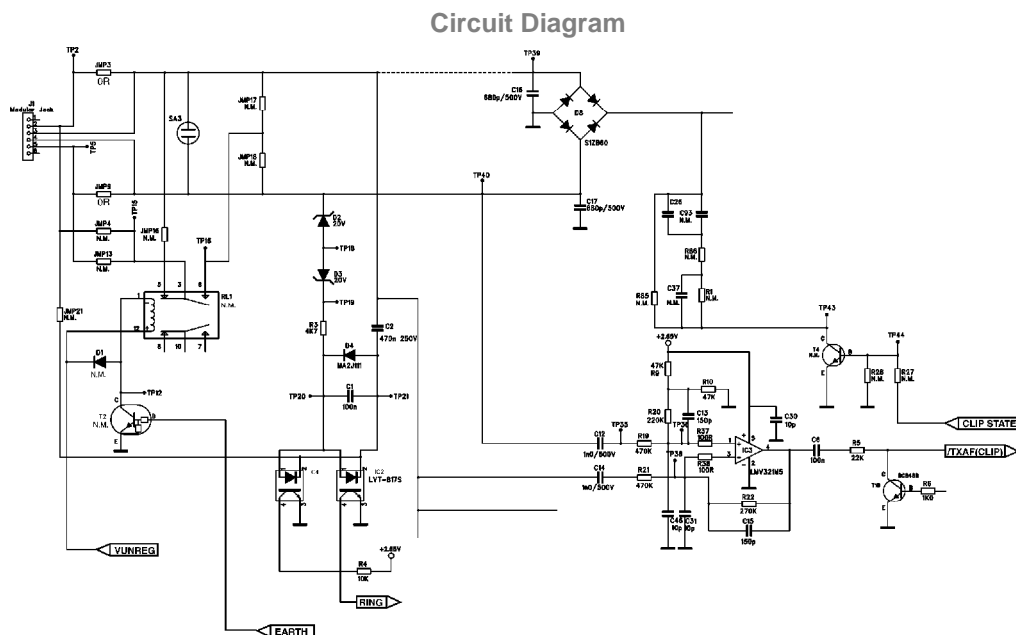

Fig.19
5.2.2. TELEPHONE LINE INTERFACE (SEE Fig. 19)
5.2.3. BELL DETECTOR (SEE Fig. 19)
5.2.4. CLIP CIRCUITS (SEE Fig. 19)
5.2.5. LINE SENSE (SEE Fig. 19)